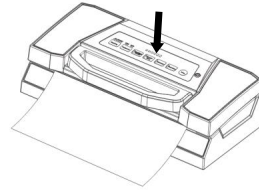

Fig.2
2. Press the **Manual Seal** button when the Vacuuming have been completed, the unit start to seal the bag automatically—**Fig. 2**